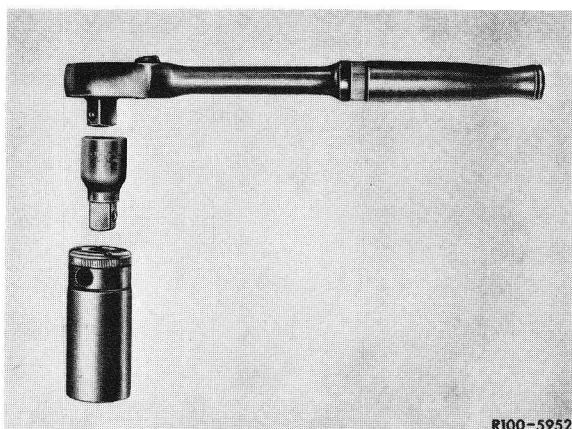

Fig. 1
**1** Place tool combination (Fig. 1) on hex. bolt for attaching hub to crankshaft and turn engine to TDC.